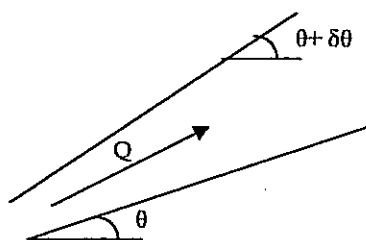

Figure 2
2) A fluid flows between two flat plates, as shown in Figure 2. The lower plate is at an angle θ to the horizontal while the upper plate is at an angle $\theta + \delta\theta$ to the horizontal.